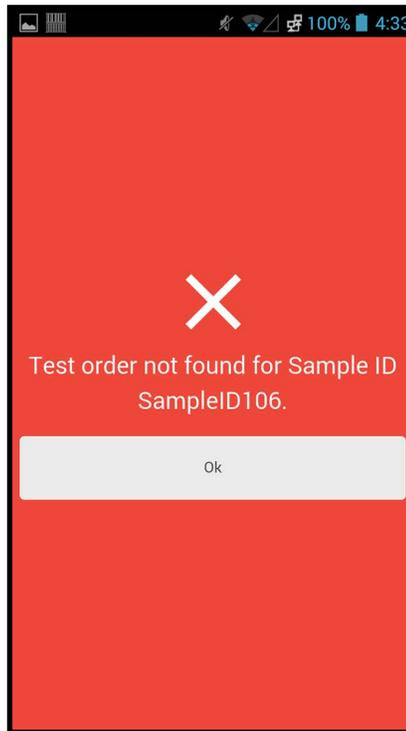

Figure 5-104. Cepheid Link Scanner Error (Order Not Found (Red X)) Screen
- 3) If an order was not found, the Error screen (Order Not Found (red X)) will be displayed (see Figure 5-104). Touch the **Ok** button to return to the Scan Sample screen.
- 5) If an order was not found, the Error screen (Order Not Found (red X)) will be displayed (see Figure 5-104). Touch the **Ok** button to return to the Scan Sample screen.